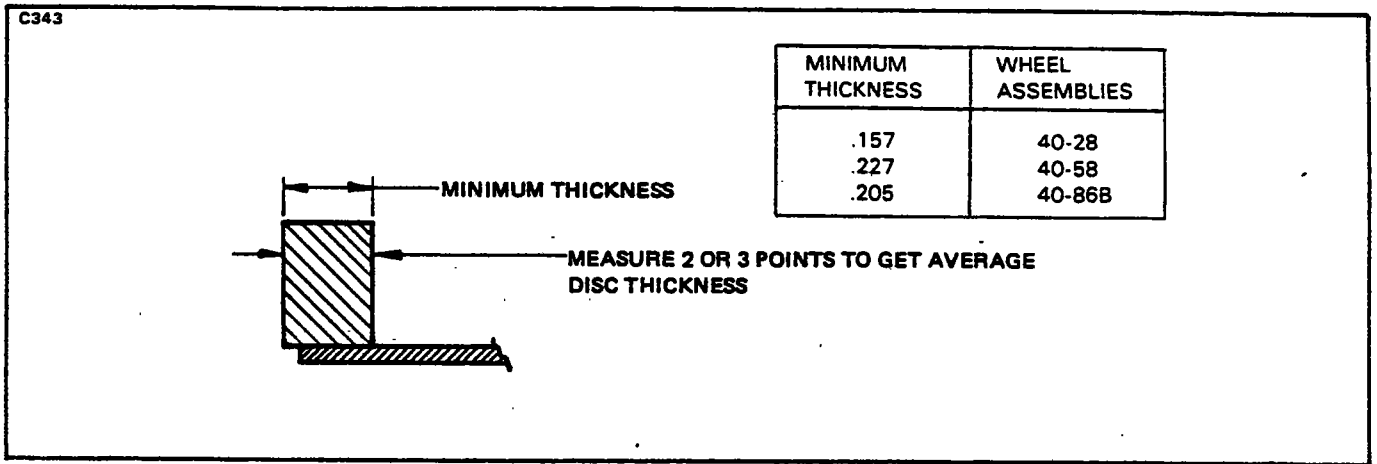

Figure 7-13. Brake Disc Minimum Thickness
- d. Check the brake disc for grooves, scratches or pits. Minimum service thickness of Disc 164-5 used on Wheel Assembly 40-28 is .157. Minimum dimension for Disc 164-9 used on Wheel Assembly 40-58 is .227. Minimum thickness of Disc 164-20 used on Wheel Assembly 40-86B is .205. (Refer to Figure 7-13.) A single groove or isolated grooves up to .031 of an inch deep would not necessitate replacement, but a grooving of the entire surface would reduce lining life and should be replaced. Should it be necessary to remove the wheel disc, refer to paragraph 7-25.